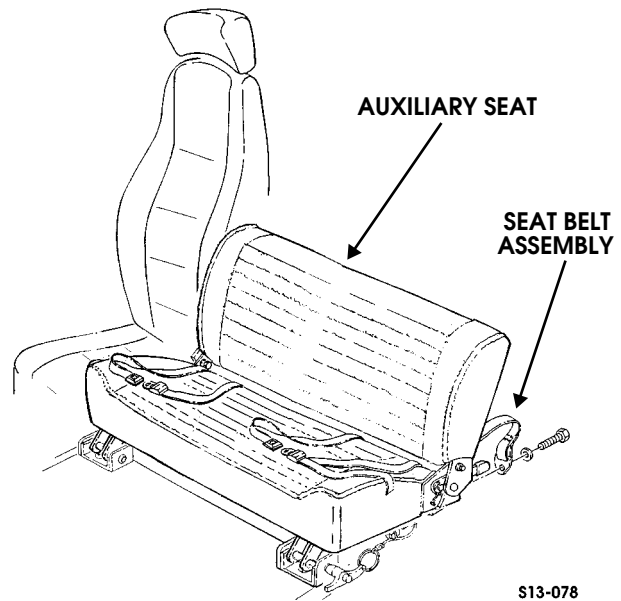

Figure 13-81: Auxiliary Seat Belt
2. Remove four bolts, washers, and two auxiliary seat belt assemblies from auxiliary seat (Figure 13-81).
1. Install two auxiliary seat belt assemblies on auxiliary seat with four washers and bolts (Figure 13-81). Torque to 72-78 ft-lb (98-106 N•m).